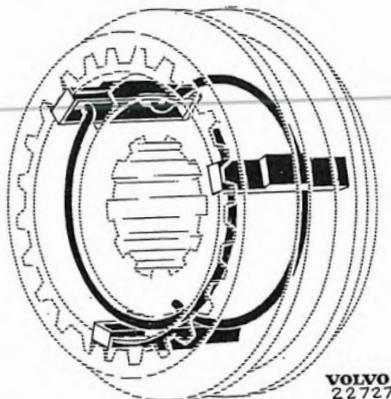

Fig. 4-18. Assembling synchronizer
2. Install the parts for the 1st and 2nd synchronizer on the mainshaft. Fit the snap rings correctly, see Fig. 4-18.
5. Install the thrust washer, 3rd speed gear wheel and synchronizing cone on the shaft. Assemble the 3rd and 4th speed synchronizing parts. Fit the snap rings correctly, see Fig. 4-18. Then install the synchronizer on the mainshaft. Select a locking ring of the correct thickness and fit it.